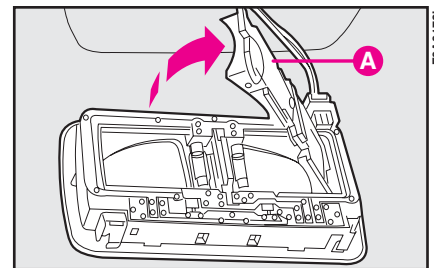

fig. 38
2) Open the bulb container **A-fig. 38**.